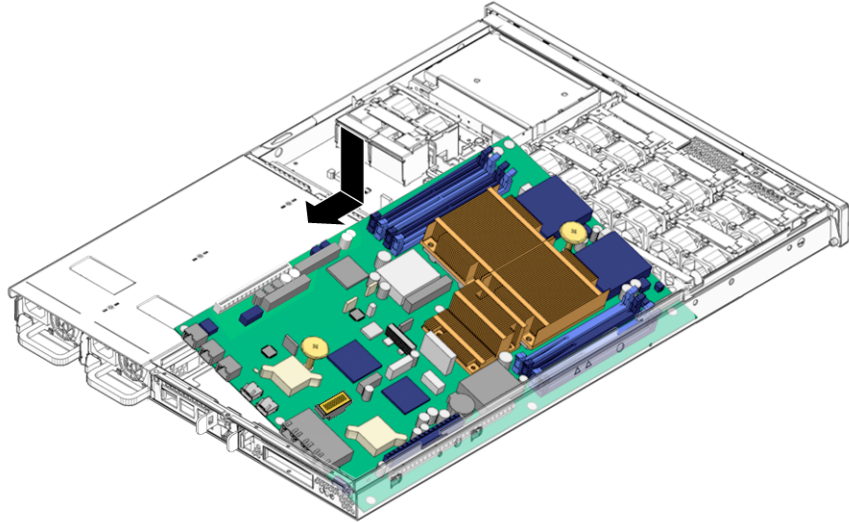

FIGURE 3-24 Installing the Motherboard Assembly
2. Using the green handles, tilt the motherboard assembly to position it into the chassis (FIGURE 3-24).